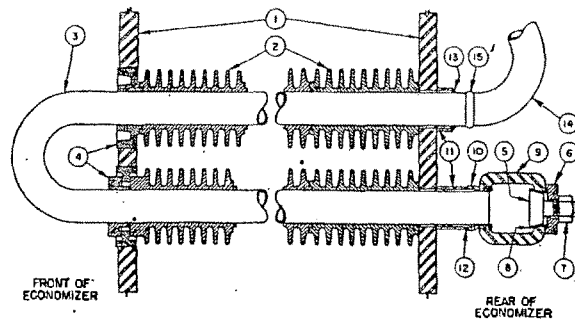

FIGURE 2. STANDARD U-BEND ECONOMIZER ELEMENT CONNECTED TO HEADERS WITH WELDED RETURN BENDS.
For internal inspection of the elements the handhole plate must be removed. Refer to Fig. 2.
- (6) Crimp ferrule (or gasket) part No. 8 Fig. 2 using crimping tool (Fig. 3) and remove from header.
- (7) Remove plug (5) by means of lifting tool.
Burn, or preferably cut off (using hack saw) both return bends (14) Fig. 2 from effected element at four places where the return bends are welded. This cut should be made through the weld (15). This is necessary for accessibility in installing and aligning new element. Chip the tack weld (13) to spacer on effected element only. If one
After return bend is welded in place, tack weld tube to spacer in four places (Fig. 2, #13).
An illustration of typical side wall construction can be seen in figure 1. The application of materials in the floor and corbell in this type of unit is also illustrated in this figure. The materials used in the front wall and burner sections are shown in figure 2.